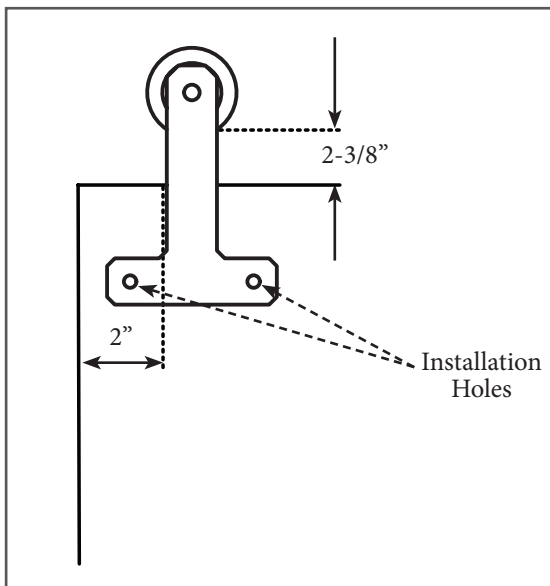

Figure 2
3. Adjust the placement of the hanger for a 2-3/8" gap between the top of the door and the bottom edge of the wheel. Ensure the side of the hanger is resting 2" from the edge of the door (Figure 2).
4. Mark the center of each installation hole with a pencil. (Figure 2).